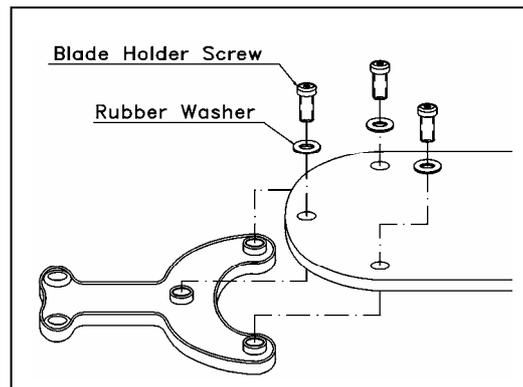

Figure 4
- Unpack hardware package. See Figure 4